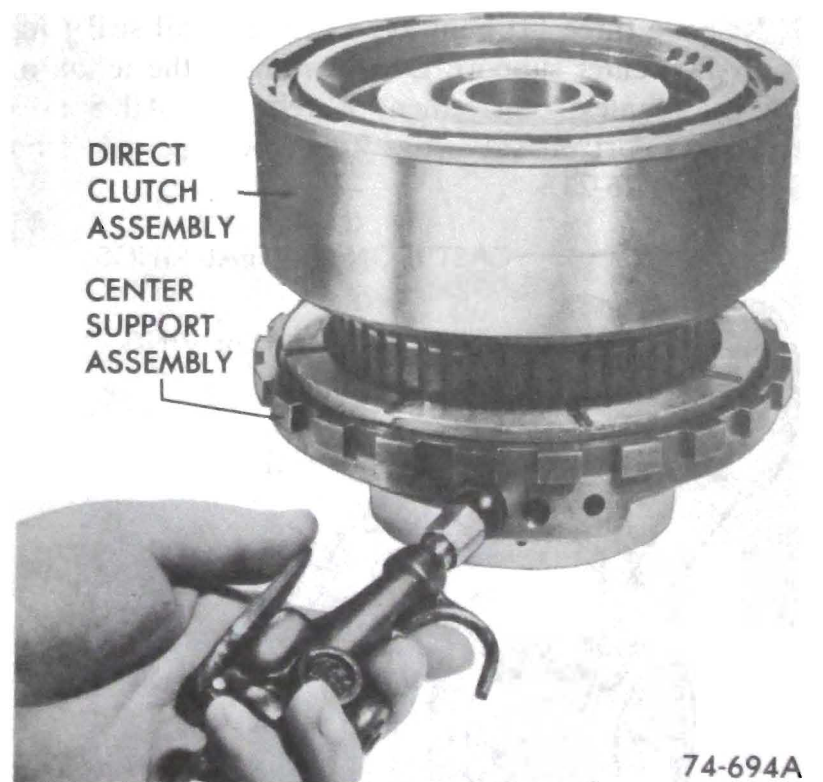

Figure 76-216
17. Place direct clutch assembly over center support and air check operation of direct clutch. See Figure 76-216.